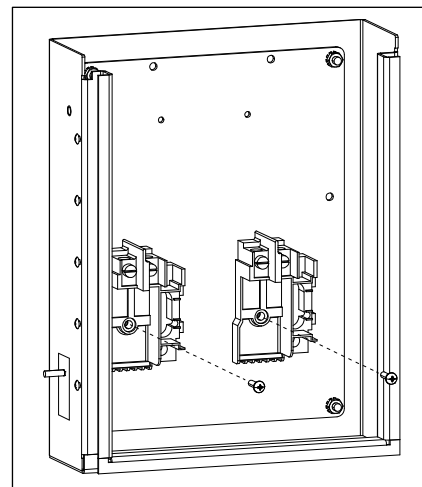

Figure 4 Breakers
2. Push the breakers into the breaker holders until they snap into place (Figure 4).